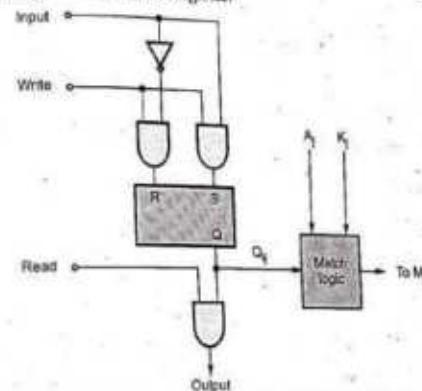

Fig. 7.9.3 Internal organization of typical cell of associative memory
- The Fig. 7.9.3 shows the internal organization of a typical cell. It consists of a SR flip-flop as a storage element and the circuit for reading, writing and matching into the storage cell. To carry-out read operation read signal is made logic 1. The match logic compares the bit in the storage cell with the corresponding unmasked bit of the argument and provides an output for the decision logic that sets the corresponding bit in the match register.